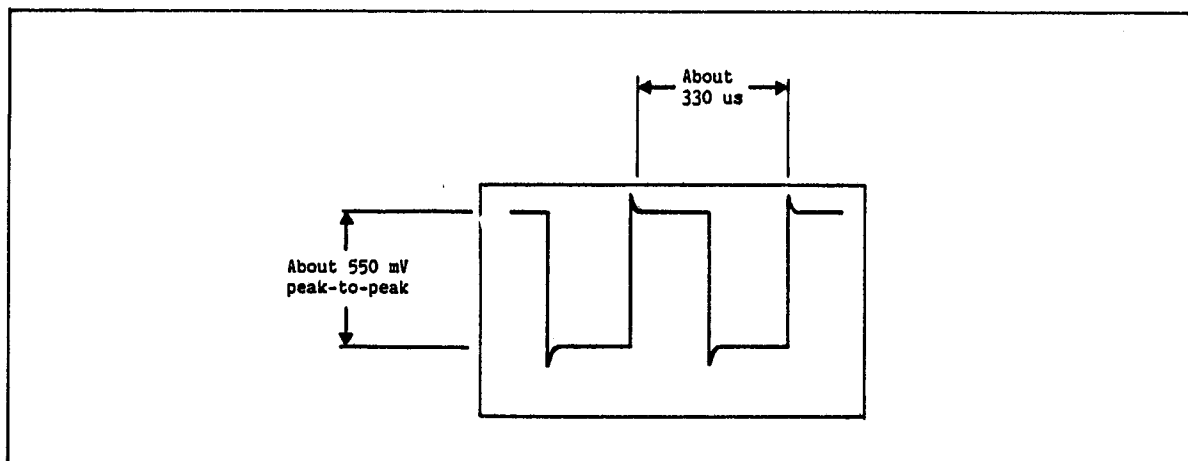

Figure 4-9. Probe Compensation Square Wave
9. Adjust the oscilloscope's horizontal and vertical settings until an approximate square wave is displayed. Then use an adjustment tool on COMP ADJ to obtain an underdamped square wave with 10% overshoot. For the adjustment tool, use Fluke Part Number 800540. The square wave should bear similarity to Figure 4-9.